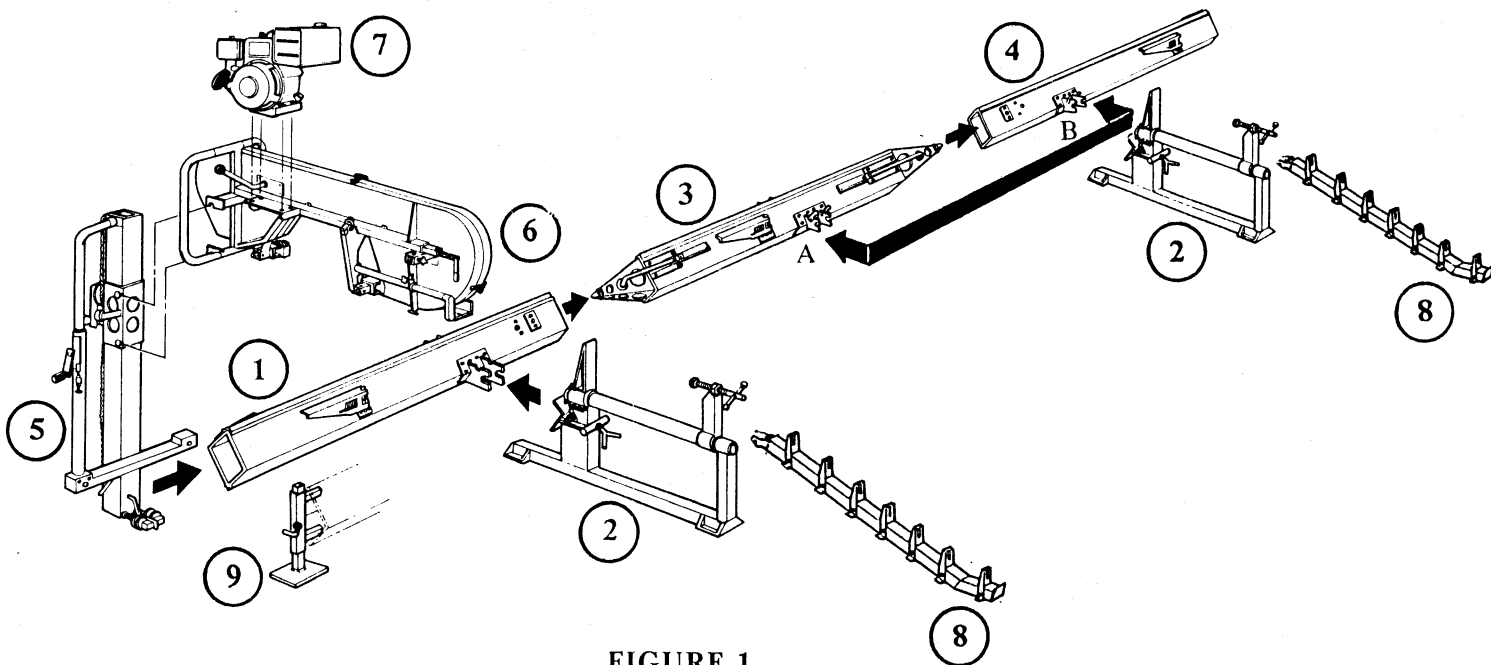

FIGURE 1
4. Assemble (#1) to (#2) as shown in Figure 1. Turn the T-handle located in the body of the Log Deck clockwise until the Log Deck is clamped firmly to the Track Tube. Make sure there is no sawdust in the junction between any of the pieces.